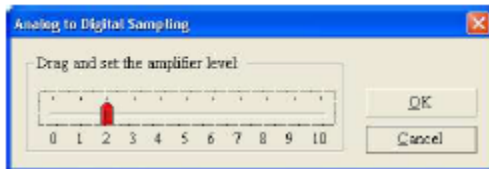

Fig. 5-9
4. click scan→service→energy scan on the menu, appears following form (Fig 5-9), select the amplifier, click ok to scan (Fig 5-10). Click  to cancel while scanning.